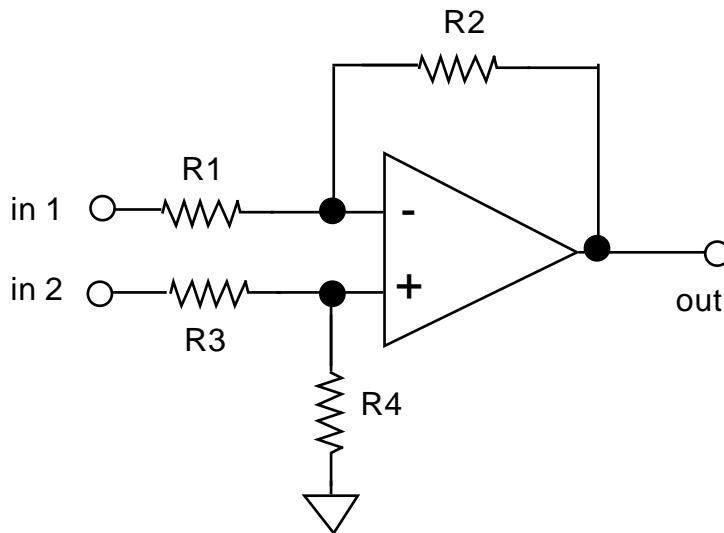

Figure 7-6 Differential Amplifier
} The circuit in Figure 7-6 is a differential amplifier.
- * Connect the circuit in Figure 7-6, using resistor values